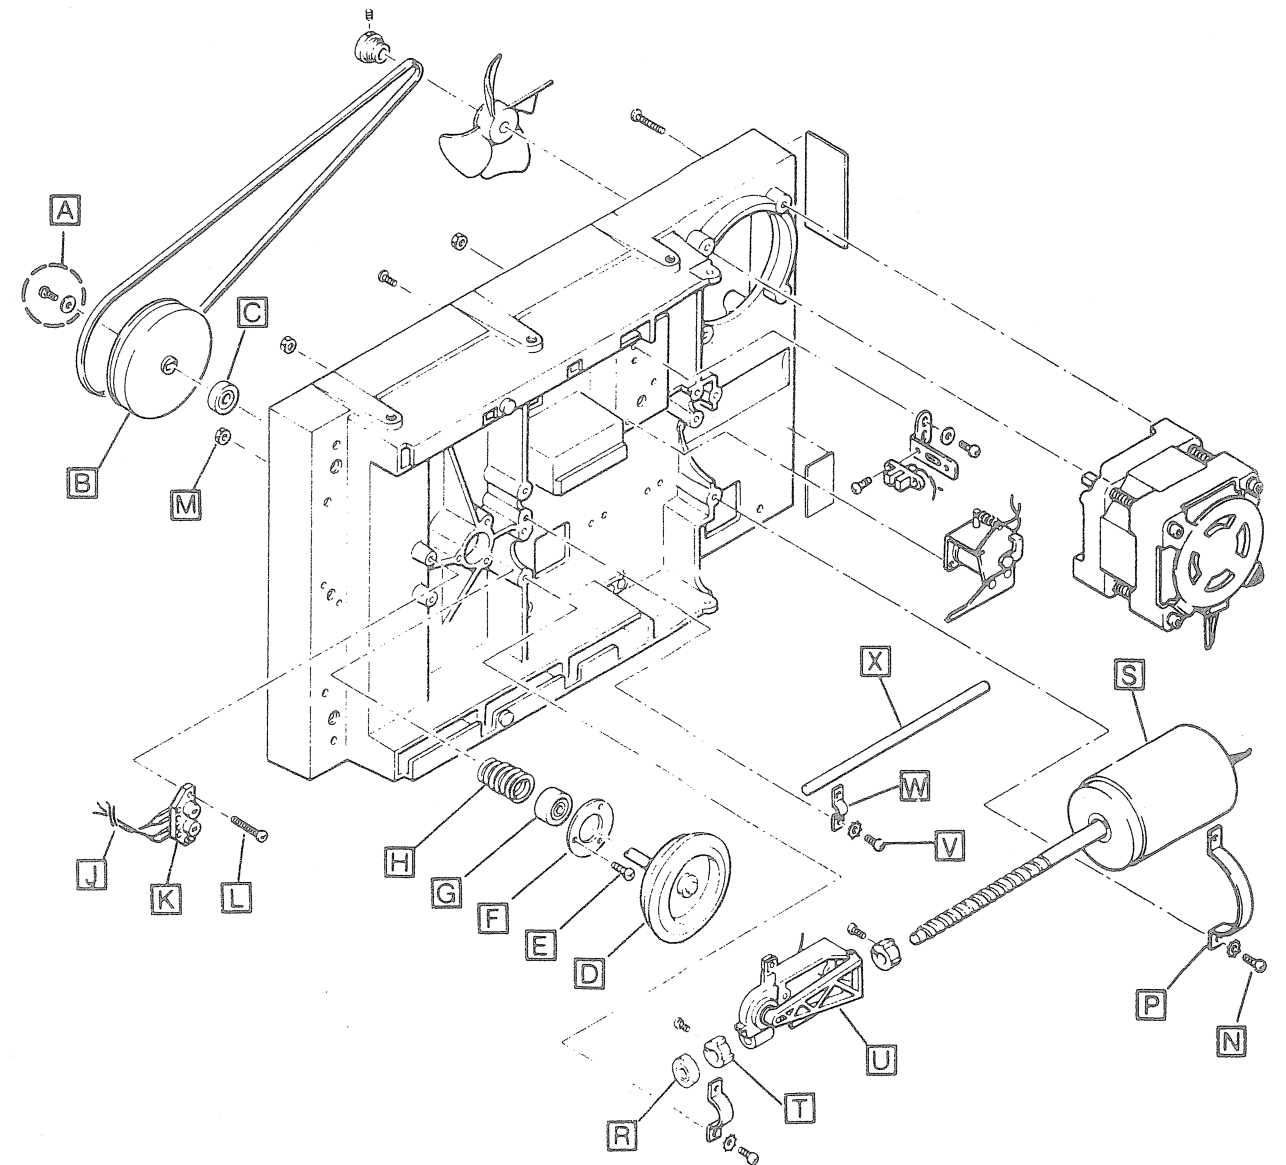

FIGURE 4-6. SPINDLE, BEARINGS, DRIVEN PULLEY, INDEX/SECTOR EMITTER, STEPPER AND CARRIAGE ASSEMBLIES REMOVAL AND REPLACEMENT
The Spindle Assembly consisting of the spindle and press fitted hub is mounted in bearings on the base as shown in Figure 4-6. The Driven Pulley is mounted on the spindle on the opposite end of the hub. The pulley is driven by the drive motor and belt to provide disc rotation.
Emitter Assembly is mounted on the base in front of the spindle assembly; it is secured by two mounting screws. The assembly normally includes one LED (Light Emitting Diode) which emits invisible infrared light whenever DC power is applied to the 550 drive. The assembly can include a second LED for alternate side operation. The Index/Sector Emitter Assembly is shown in Figure 4-6.
The Stepper motor is used to position the carriage at the track address determined by the drive electronics. The Stepper and Carriage Assembly is shown in Figure 4-6.
The Way Shaft is used to guide and stabilize the carriage. The Way Shaft is shown in Figure 4-6.
7. Loosen two screws on stepper motor clamp to permit stepper rotation (Figure 4-6).